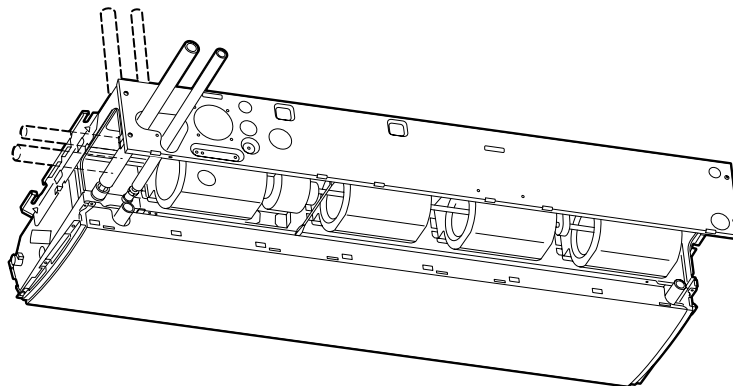

Fig. 3-51
- * If the drain hose is routed through the left side, refer to Fig. 3-51, and follow the procedure above to install the hose. Rettach the rubber stopper removed earlier onto the right side. The rubber stopper can be inserted easily by using a screwdriver or similar tool to press the stopper into the drain port on the main unit. Press the stopper into the main unit drain port as far as it will go.